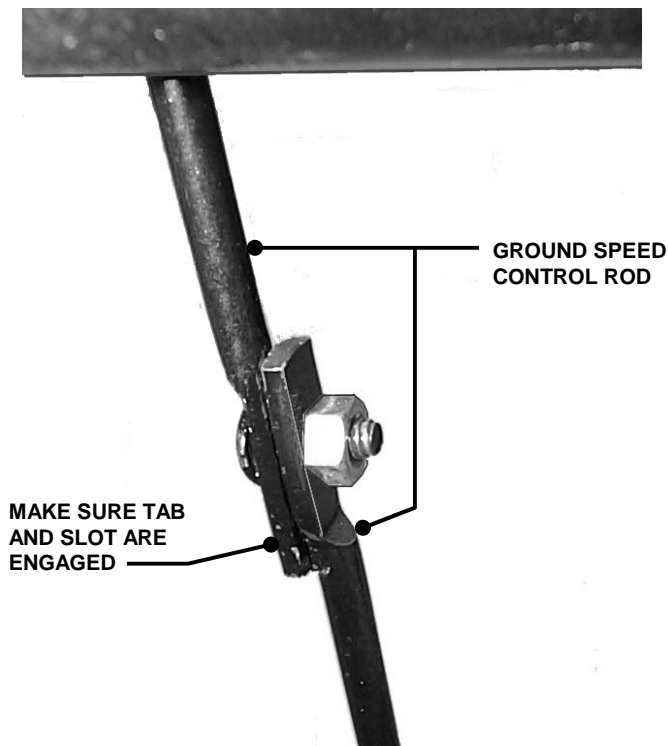

FIGURE 5
STEP 5: CONTROL ROD: : Cut wire ties that secure the ground speed control handle and control rods. Secure both halves of the ground speed control rod together. **IMPORTANT:** Make sure alignment tab and slot on the two rod halves are engaged together. Tighten nut securely. See Figure 5.